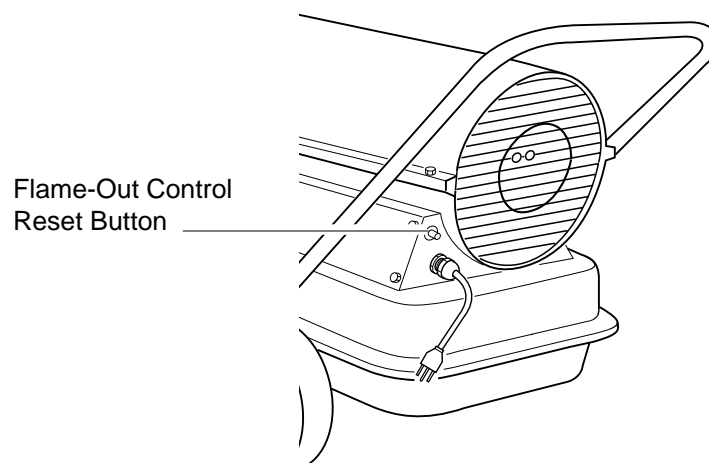

Figure 5 - Flame-Out Control Reset Button
Heater will start when power cord is plugged into outlet. If not, push in flame-out control reset button (see Figure 5).
5. Adjust thermostat to desired setting. If heater does not start, thermostat may be set too low. Turn thermostat knob to higher position to start heater. If thermostat is in HIGH position and heater still will not start, push in flame-out control reset button (see Figure 5).
Flame-out control not reset	Reset flame-out control button, see Figure 5, page 7.